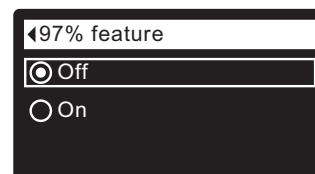

FIG. 93
8c. 97% feature: If the desired option already has a dot next to it (See Figure 93, go to Step 9. Otherwise, press the DOWN (▼) or UP (▲) buttons to scroll to the other option, then press SELECT (O) to choose it. If this feature is On, the softener will automatically recharge when 97% of capacity is used, at any time of day. Default is Off.